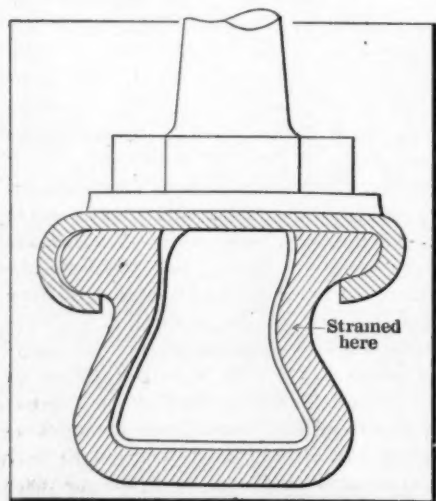

Fig. 1—Soft tire at the bottom of wheel being subjected to a severe bending stress
(1) The trouble in the tire is no doubt due to insufficient inflation or, perhaps, to a leak which takes place after a certain pressure has been attained. The pinch will take place at the top of the wheel if the car is standing or running with the tire flat. The accompanying illustrations (Figs. 1 and 4) will show the position taken by the tire at the top and bottom of the wheel when not pumped to the required pressure. The remedy is obviously to maintain the tire pressure required by the weight of the car.
(2) If the bearing is not adjusted too tightly, a trip to the repairman would probably be of benefit, as there may be something out of alignment. A little play should be allowed in the bearing so that after